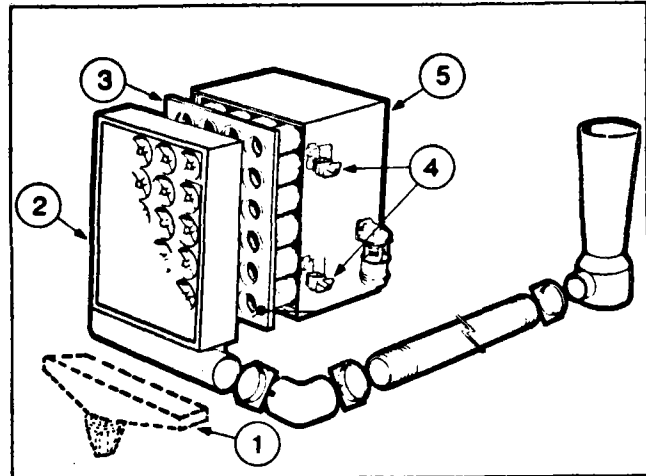

Fig. 2-13, (N21026). Air cleaner — cartridge type (two stage)
1. Loosen the wing nuts (4, Fig. 2-13 or 2-14) on the air cleaner housing (5) to remove the pre-cleaner
2. To install a new cartridge, hold the cartridge (3, Fig. 2-13 and 2-14) in the same manner as when removing it from the housing. Insert the clean cartridge into the housing; avoid hitting the cartridge tubes against the sealing flange on the edges of the air cleaner housing.
4. Replace the pre-cleaner panel (2) and tighten the wing nuts (4) by hand, for final tightness turn 1-1/2 to 2 turns with a small adjustable wrench. Do not overtighten. On a pre-cleaner with an exhaust aspirator, assemble the aspirator tube to the pre-cleaner panel and tighten the "U" bolt.